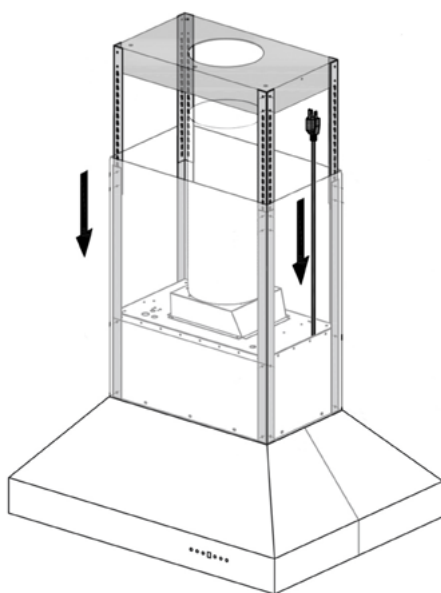

Figure 6
8. With the hood securely mounted, slide the chimney pieces down to the hood in order to connect your ducting and power cord. The hood comes with a grounded 3-prong plug that must be plugged into a dedicated 15-amp circuit previously installed in the ceiling. The cord is 36" (914 mm) long. *Figure 6*